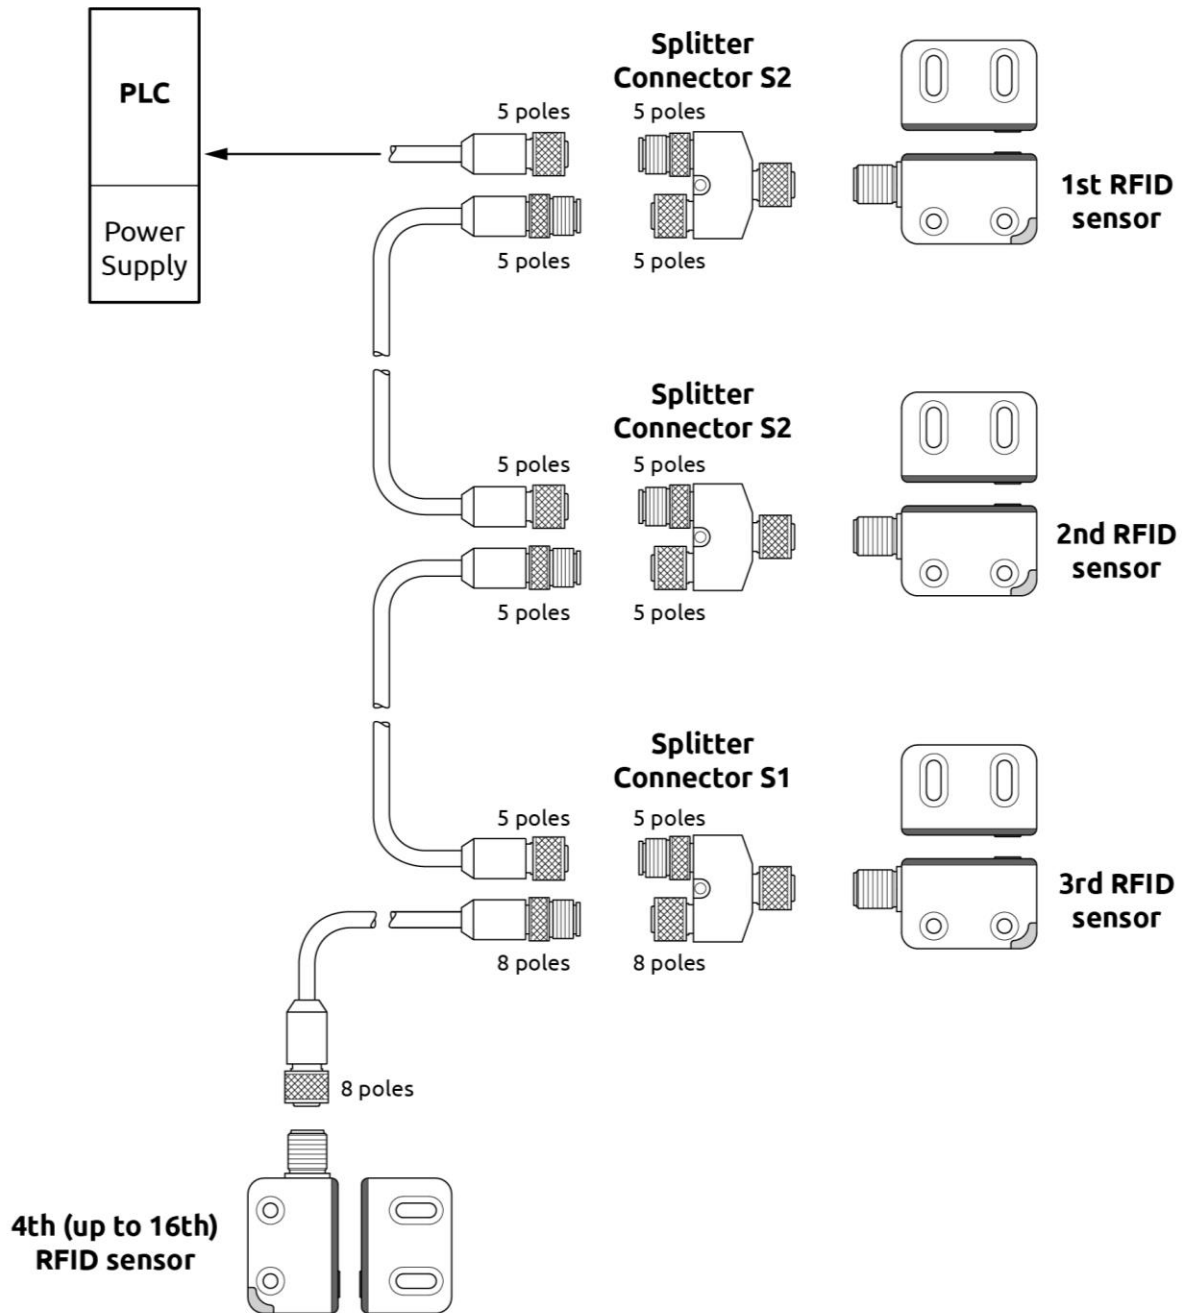
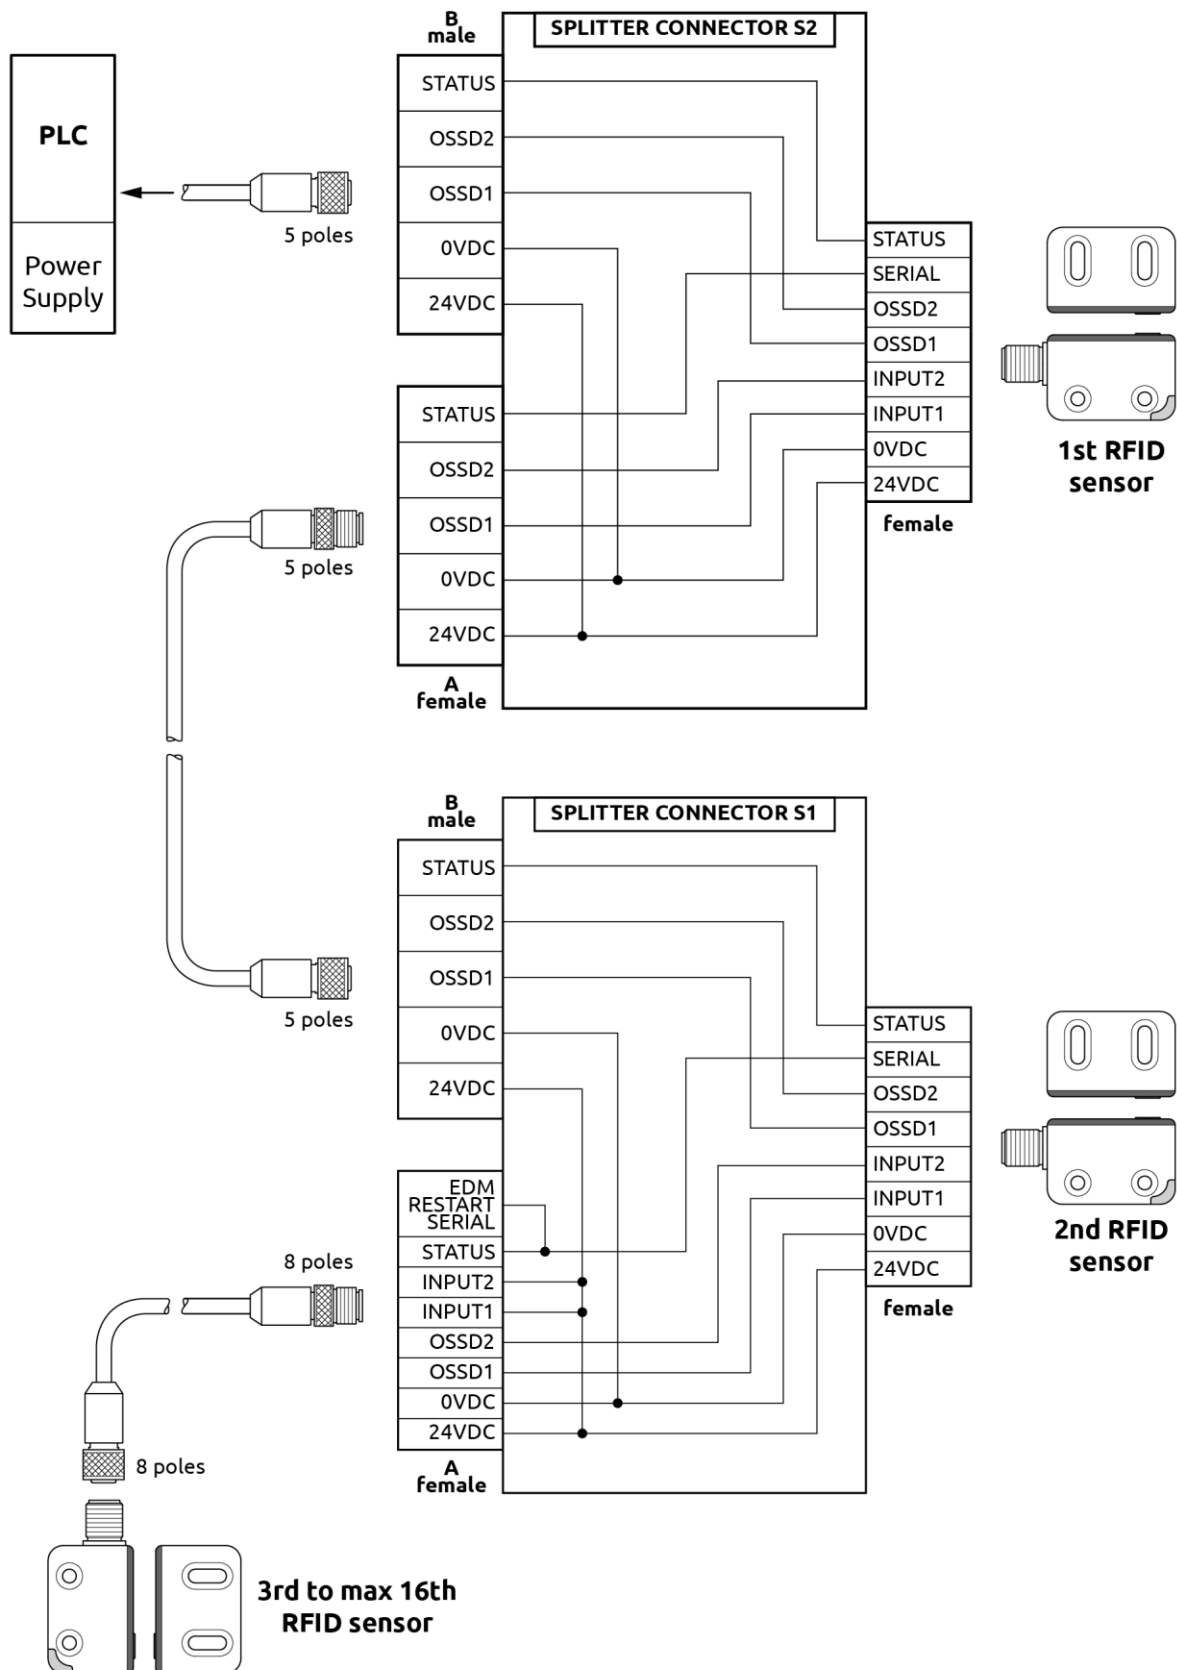

Figure 32 - Serial mode (Automatic)
Figure 33 - Serial mode wiring (Automatic)
- ➔ For a quicker and safe connection, ReeR recommends using its splitter connectors as showed in Figure 32 and Figure 33.